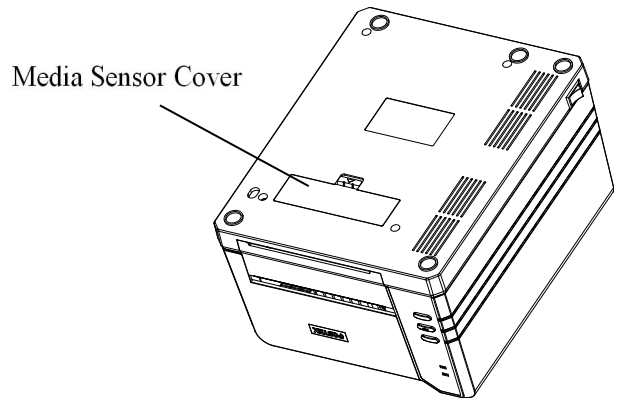
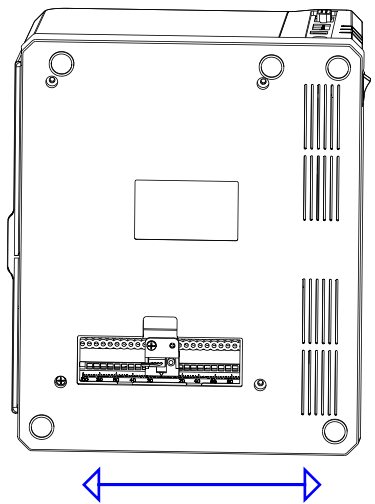

Figure 6-6
Figure 6-7
4. Remove the Media Sensor cover(see Figure 6-6), remove the screw, adjust the Media Sensor to the appropriate position, then fix the screw back (see Figure 6-7).